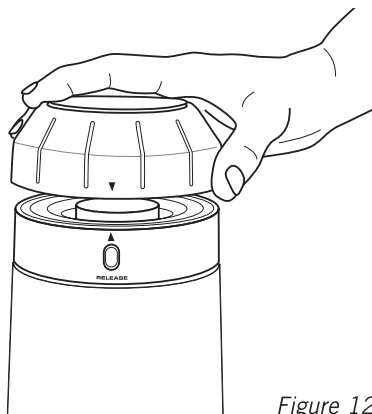

Figure 12
5. Lift the grind adjustment collar away from the motor base and clean with the brush, see Figure 12.